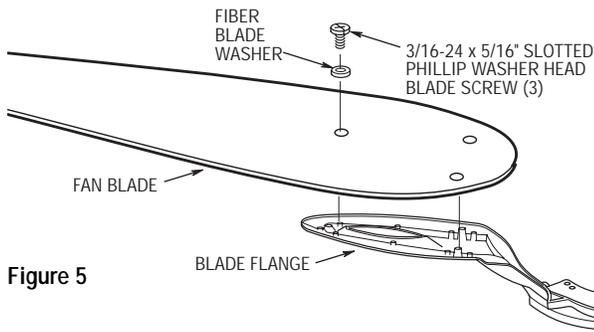

Figure 5
7. Mount blade flanges to fan blades using three 3/16-24 x 5/16" slotted Phillips washer head blade screws and three fiber blade washers (Figure 5).